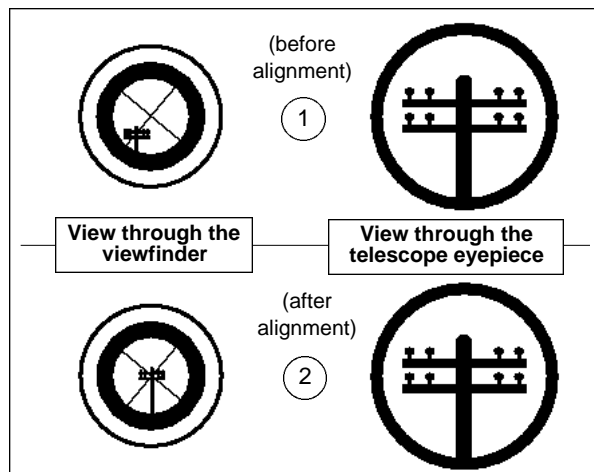

Fig.8: Aligning the Viewfinder.
2. Using the SP26mm eyepiece, point the main telescope at some easy-to-find, well-defined land object, such as the top of a telephone pole. Center the object precisely in the eyepiece's field of view, then tighten the vertical and horizontal locks (6 and 10, Fig. 1) so that the object does not move (1, Fig. 8).
3. While looking through the viewfinder, turn one or more of the three front viewfinder alignment screws (4, Fig. 7), until the crosshairs of the viewfinder point at precisely the same position as the view through the eyepiece of the main telescope (2, Fig. 8).